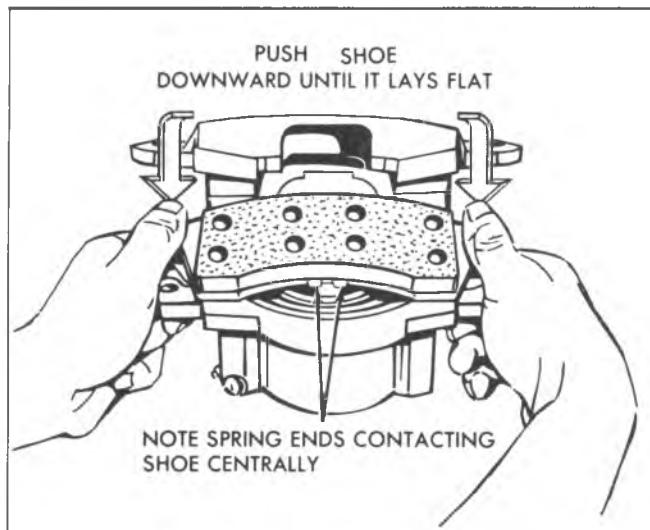

Fig. 58--Installing Shoe to Caliper
5. Push down until the shoe lays flat against the caliper (fig. 58).